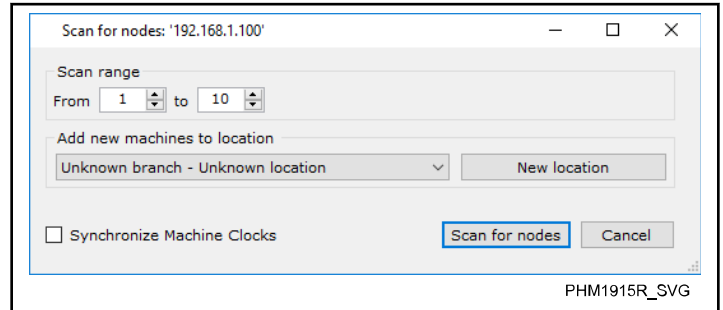

Figure 89
4. In the "Scan" window, select a location or create a new location for the scanned machines. Then click the **Scan for nodes** button. Refer to *Figure 89*.